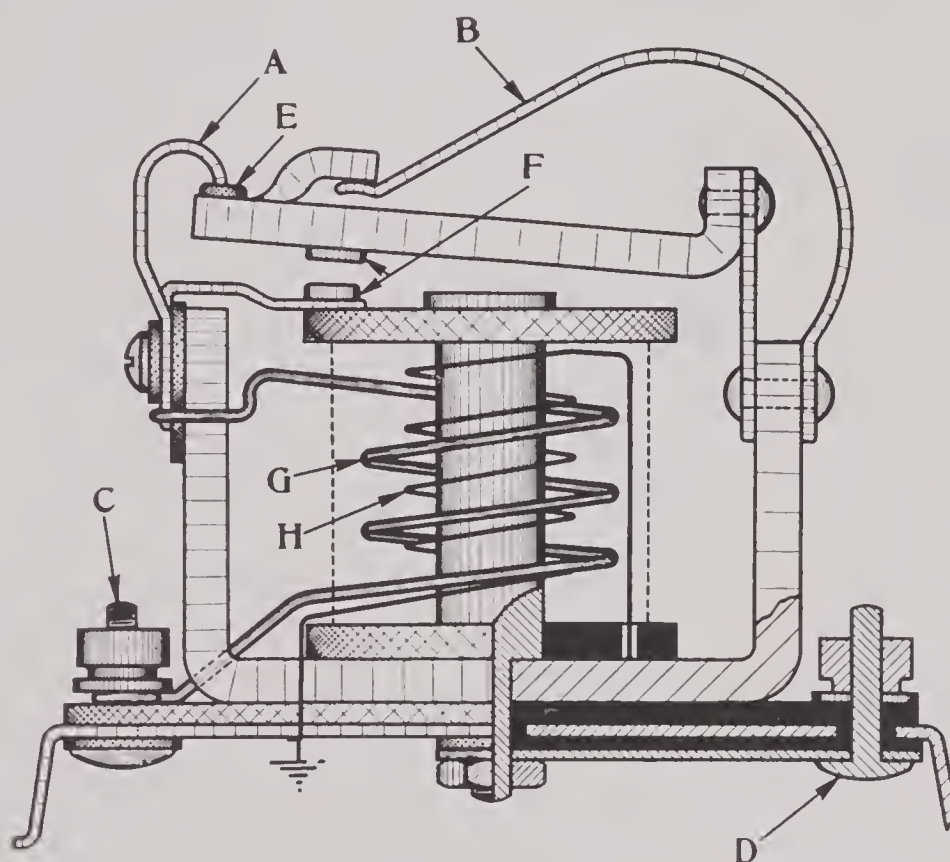
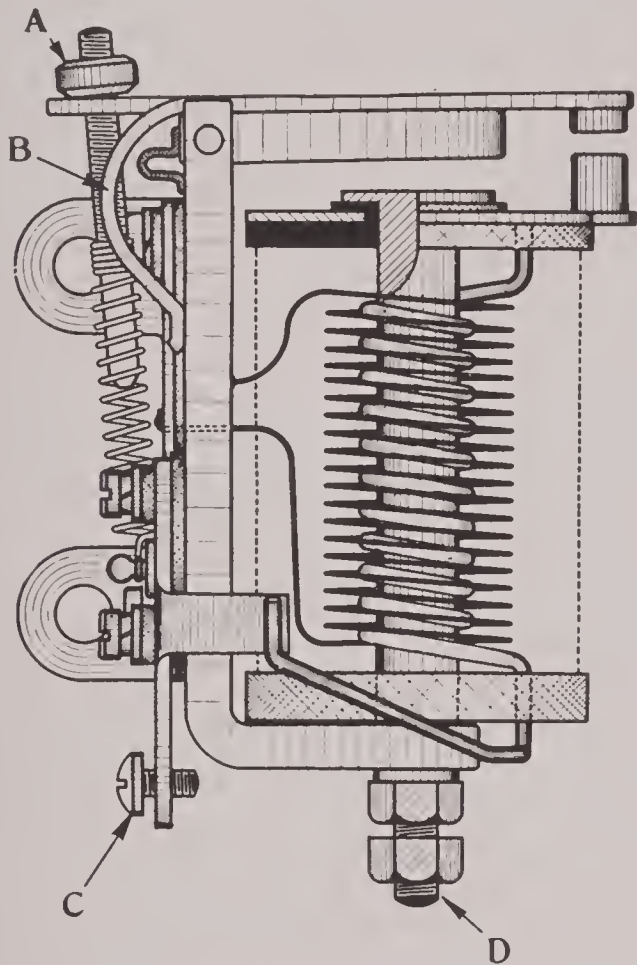

FIG. 296
FIG. 297
There are two adjustments that can usually be made on a cut-out relay. The tension of the spring is first adjusted so that the contacts are drawn apart before the strength of the discharge goes above one ampere. (The contacts should separate when the strength of discharge is between zero and one ampere). Then the stop (see (A) in Fig. 296 and (B) in Fig. 297) against which the arm drops when the spring draws the contacts apart, is so adjusted that the contacts close on six volt systems when the generator generates between $6\frac{1}{2}$ and $7\frac{3}{4}$ volts. On twelve volt systems, the contacts should close when generator generates from 13 to 15 volts. If the contacts close too early, the arm does not drop back away from the end of the core far enough. If the contacts close too late the arm drops back away from the end of the core too far.